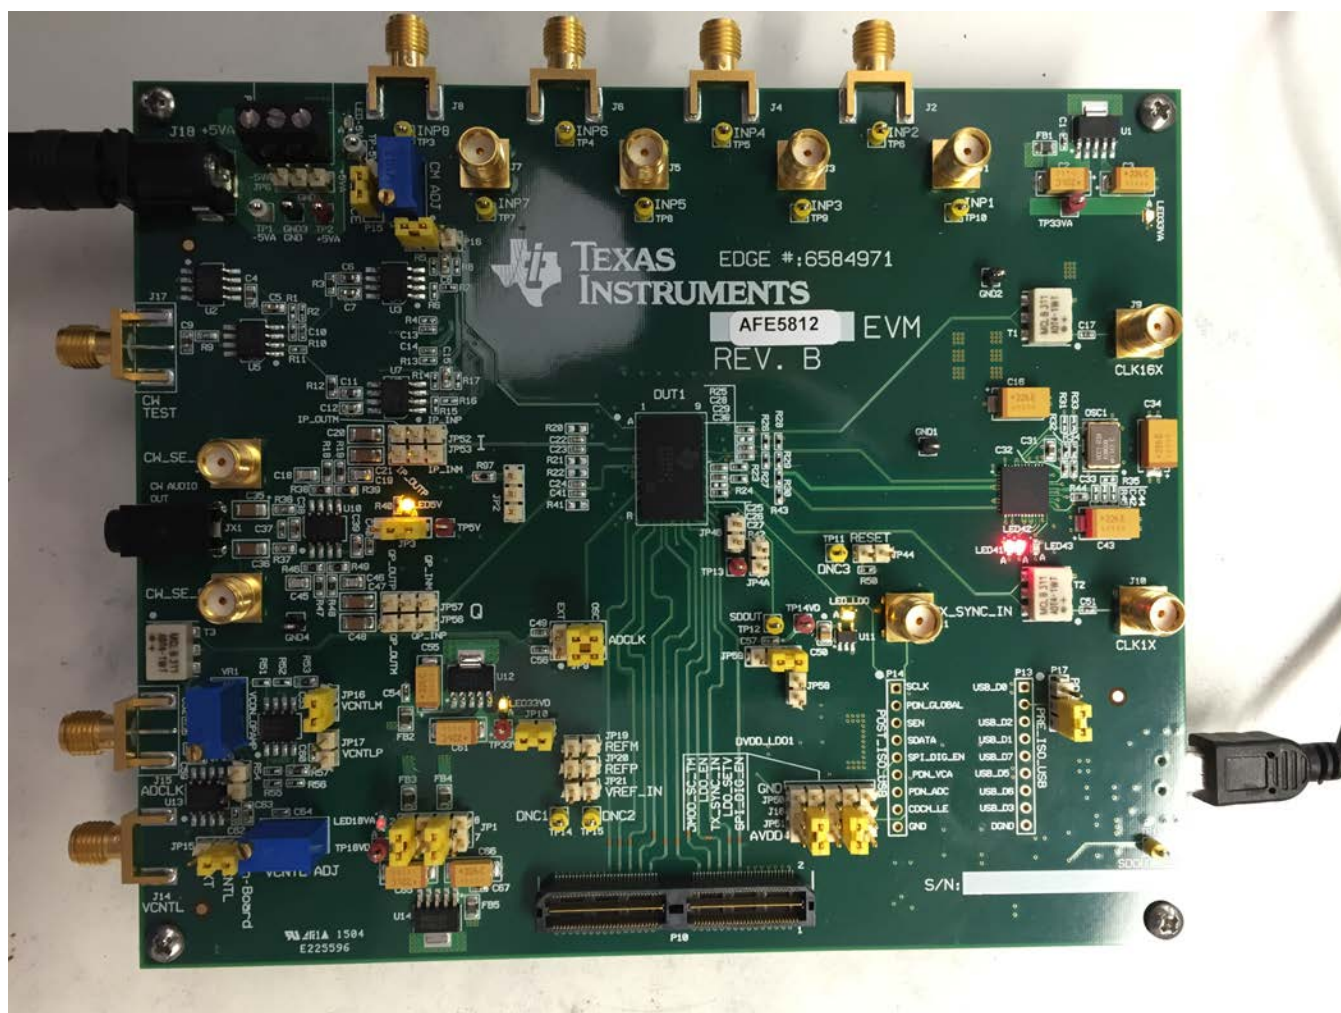
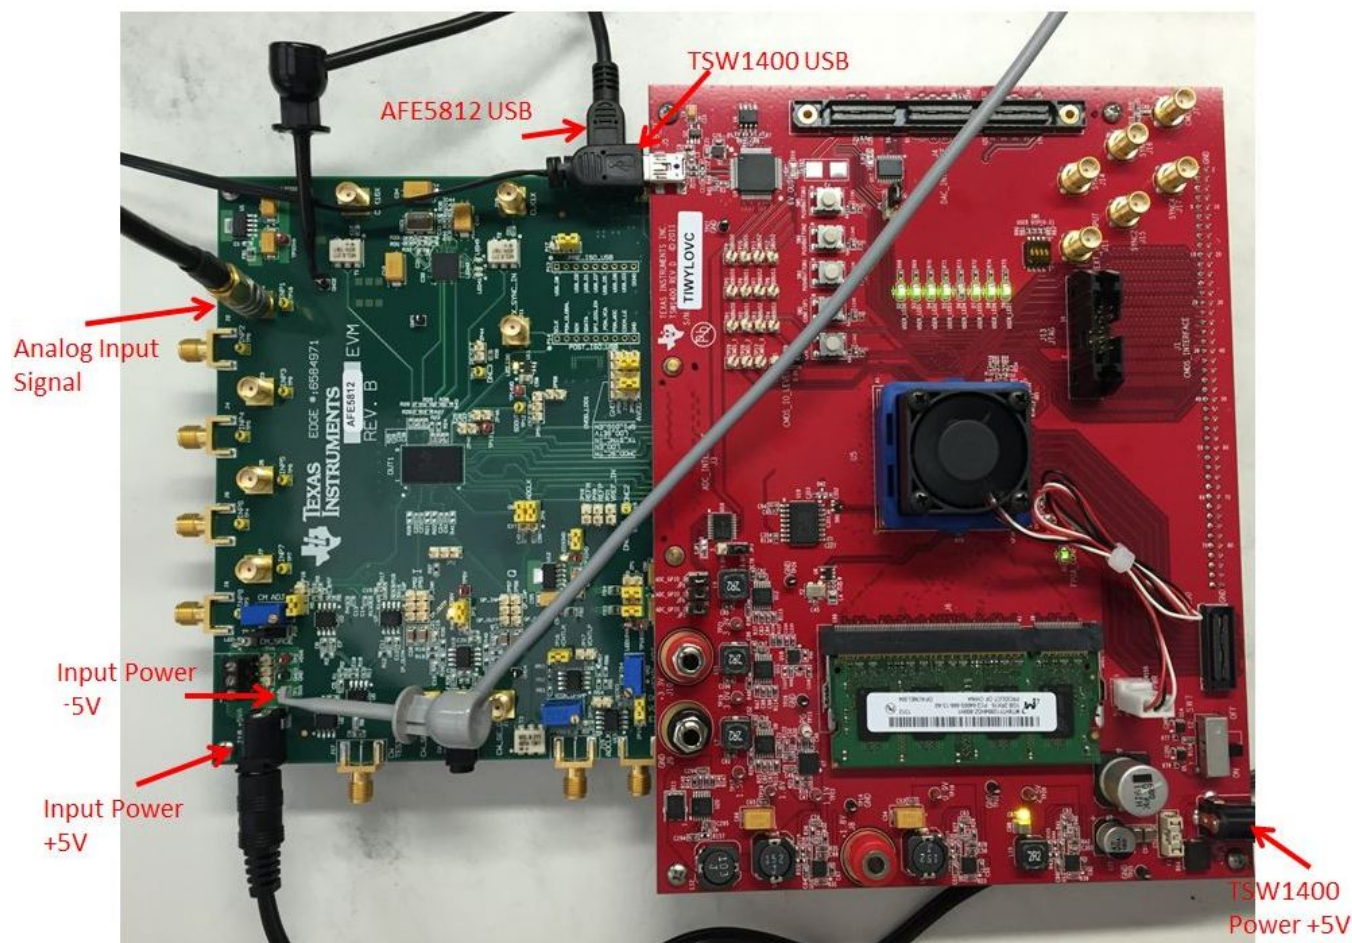
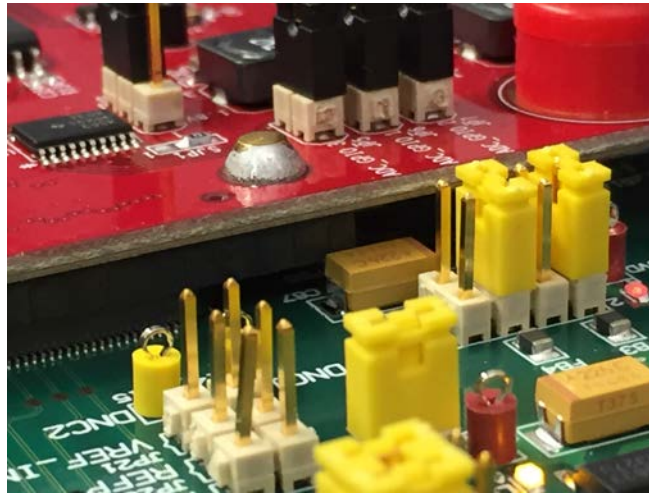

Figure 1. AFE5812EVM Basic Configuration
Figure 2. Default HW Setup With Connection between TSW1400EVM and AFE5812EVM
Figure 3. Proper TSW1400 Seating
Figure 1 shows the default configuration of the EVM from the factory. The accompanying list identifies the basic components on the EVM board.
10. JP16 is set to enable the demodulator internal LDO, as shown in Figure 1.
Two EVMs are required to evaluate the AFE5812 device: the AFE5812EVM and the TSW1400EVM. Figure 2 shows the exact setup of these two boards and external connectors. Make sure the board is seated correctly since there is a capacitor (C66) that sits very close to the connector. See Figure 3 for proper seating. For the default configuration shown in Figure 1, having an external sampling clock and external Vcntl supply is unnecessary. The onboard CMOS clock and onboard Vcntl are used. If the external Vcntl circuit or CW output amplifier circuits are unused, then the -5V supply is not required.